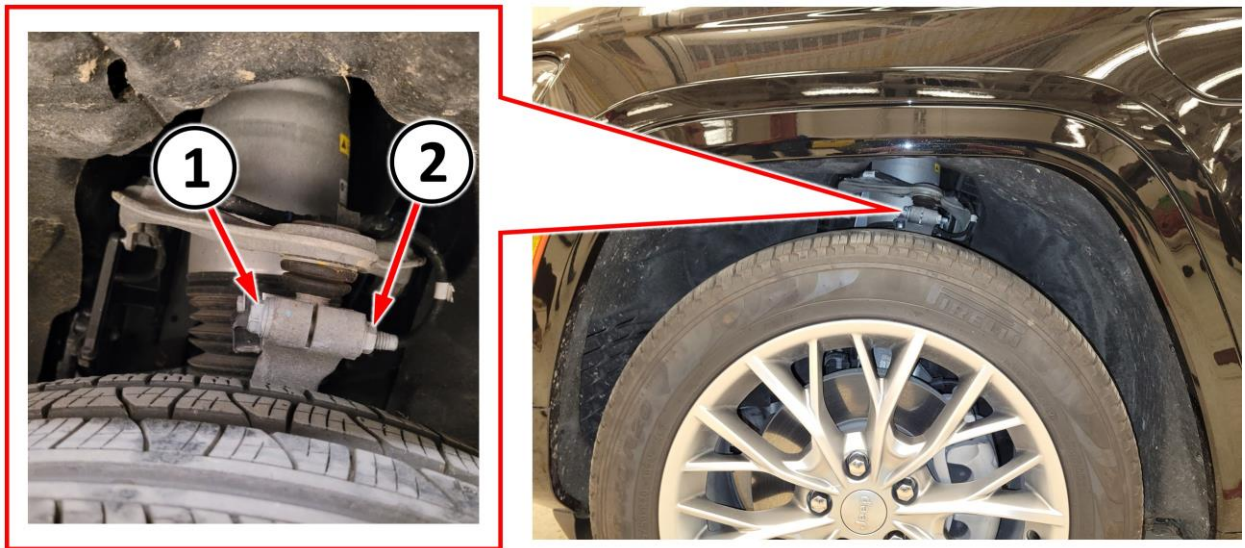

Figure 1 – Upper Steering Knuckle Pinch Joint
3. Working through the front wheel opening, access the upper steering knuckle pinch bolt. Remove the steering knuckle pinch bolt (1) from the steering knuckle (Figure 1).
CAUTION: It may be necessary to hold the nut (2) to prevent it from rotating during bolt (1) removal. DO NOT attempt to rotate the steering knuckle pinch nut. The steering knuckle pinch nut is pressed in the steering knuckle and damage will occur if the nut is rotated (Figure 1).
4. **DISCARD** the steering knuckle pinch bolt (1). The nut (2) which is pressed into the steering knuckle may remain in place on the steering knuckle and may be reused (Figure 1).
CAUTION: It may be necessary to hold the nut (2) to prevent it from rotating during bolt (1) installation. **DO NOT** attempt to rotate the steering knuckle pinch nut. The steering knuckle pinch nut is pressed in the steering knuckle and damage will occur if the nut is rotated (Figure 1).